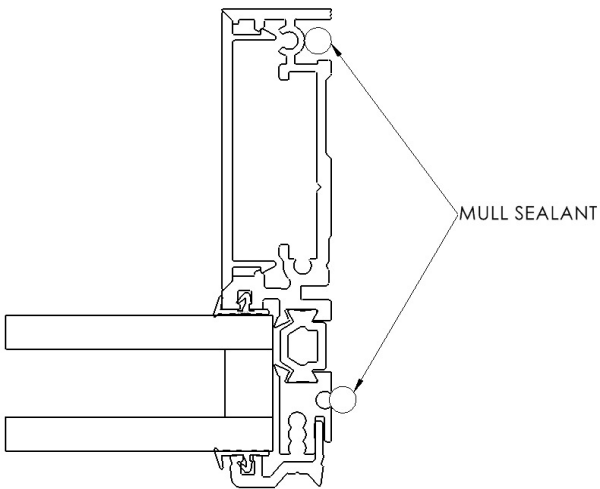

Figure 7
6. Apply a $\frac{1}{4}$ " diameter bead of Dow 795 sealant or equivalent sealant in the mull clip groove and at the sealant groove. (See Figure 7)